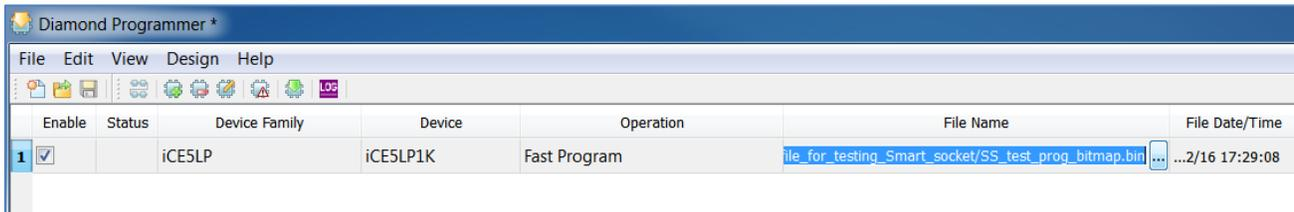

Figure 5.25. iCE Family – Select the Programming File
3. Select the programming file that you want to program in the iCE device by double clicking the  button below the **File Name** tab as shown in Figure 5.25.